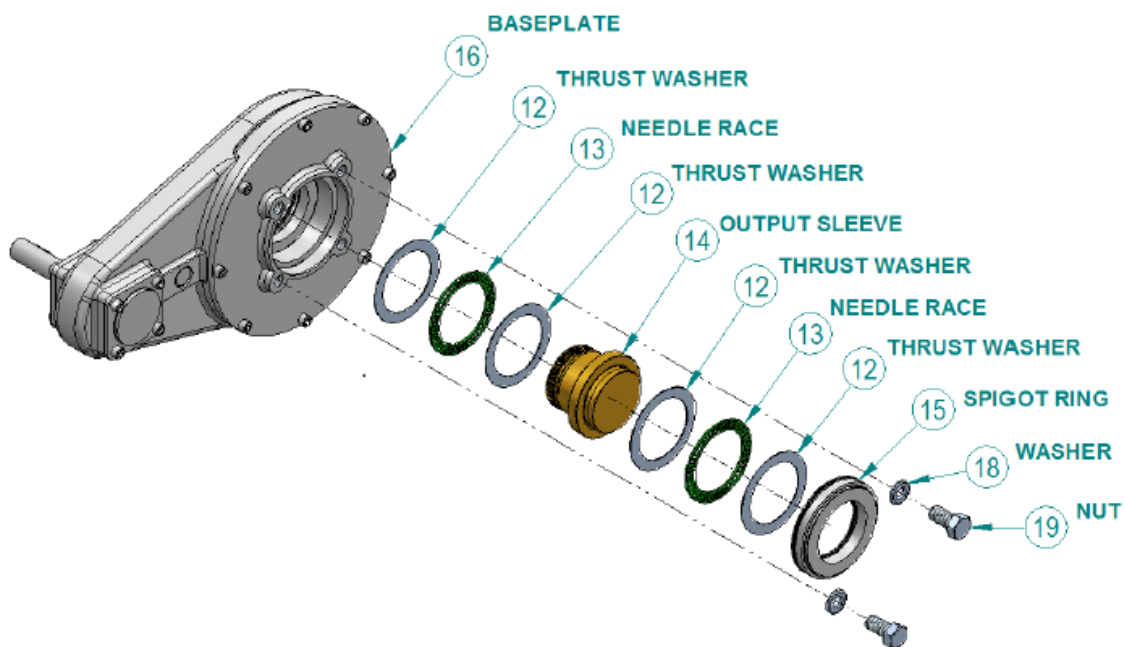

Figure 8: IS Gearbox Output Sleeve Assembly
See Figure 8: Note that the output sleeve arrangement is identical for IB and IS gearboxes. The sleeve (14) can be easily removed from the gearbox by first removing the loose piece spigot ring (15) from the baseplate (16). A slight force may have to be applied to the face marked ‘C’ to assist in removing the sleeve.
1. Ensure the machined output sleeve assembly is correctly assembled into the gearbox (see Figure 8).